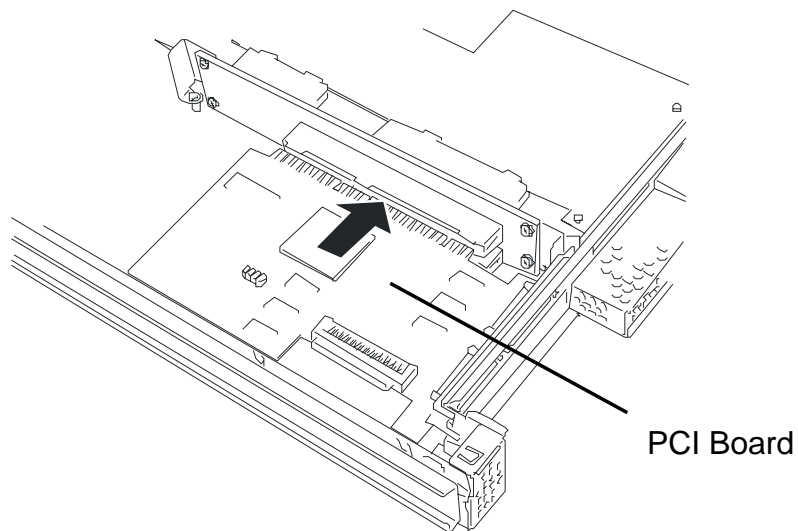

Figure 4-29. Installing the PCI Board.
8. Holding the PCI board by its top edge or upper corners, firmly press the board into the PCI expansion slot on the PCI module board. The tapered foot of the PCI board retaining bracket must fit into the mating slot in the expansion slot frame. See Figure 4-29. Be sure to Align the PCI board with the guide rail groove and insert the board slowly.